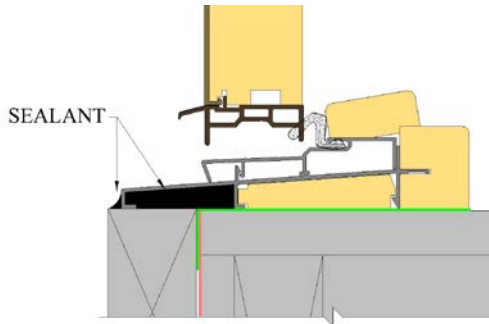

Fig. 24: Outswing Sill - Nail Fin Installation Only
- C) Apply silicone to seal each end of the sill cavity that protrudes from the rough opening. (Fig. 24 & 25)